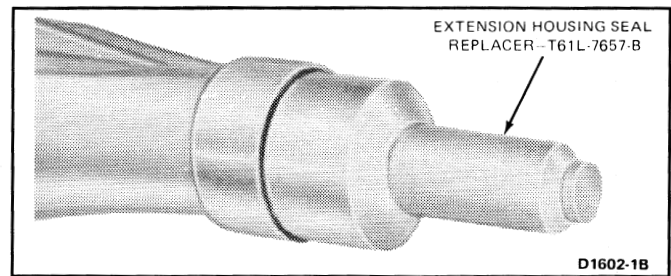

FIG. 14 Installing Extension Housing Seal
4. Install the seal into the housing with tool T61L-7657-B shown in Fig. 14. The seal should be firmly seated in the bore. Coat the inside diameter of the end of the seal with Multi-Purpose Long-Life Lubricant, C1AZ-19590-B (ESA-M1C75-B) or an equivalent lubricant.